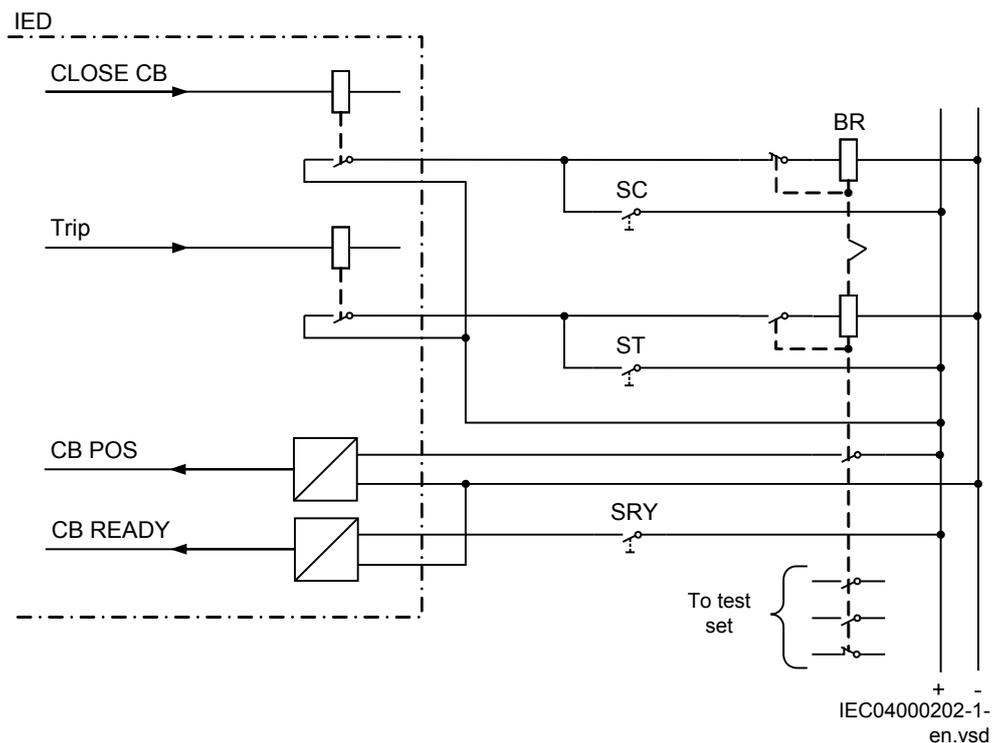

Figure 78: Simulating the CB operation by a bi-stable relay/breaker simulator and manual switches
The verification test is performed together with protection and trip functions. Figure 78 illustrates a suggested testing arrangement, where the circuit-breaker (CB) is simulated by an external bi-stable relay (BR), for example a relay type RXMVB2 or RXMD or Breaker Simulator of ABB. The following manual switches are used:
- Switch or push-button to close (SC)
- Switch or push-button to trip (ST)